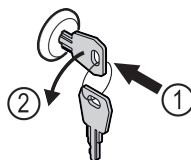

Fig. 159
- ▶ Insert the key. Fig. 159 (1)
- ▶ Turn the key anticlockwise by 90°. Fig. 159 (2)